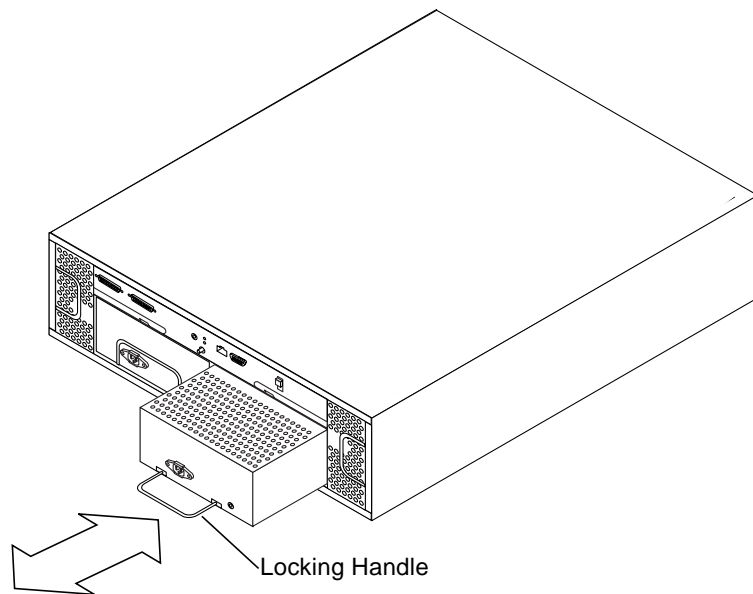

FIGURE 3-4 Removing and Replacing a Power Supply
2. **Pull the locking handle down and slide the power supply out of the bay** (FIGURE 3-4).